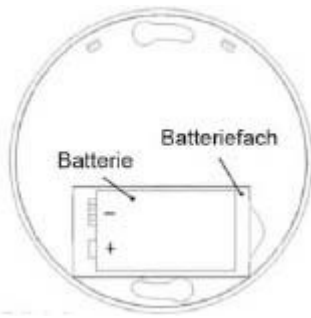

Figure 2
3. Place the new battery in the battery holder. Re-install the alarm part. Turn it clockwise (see fig. 2).